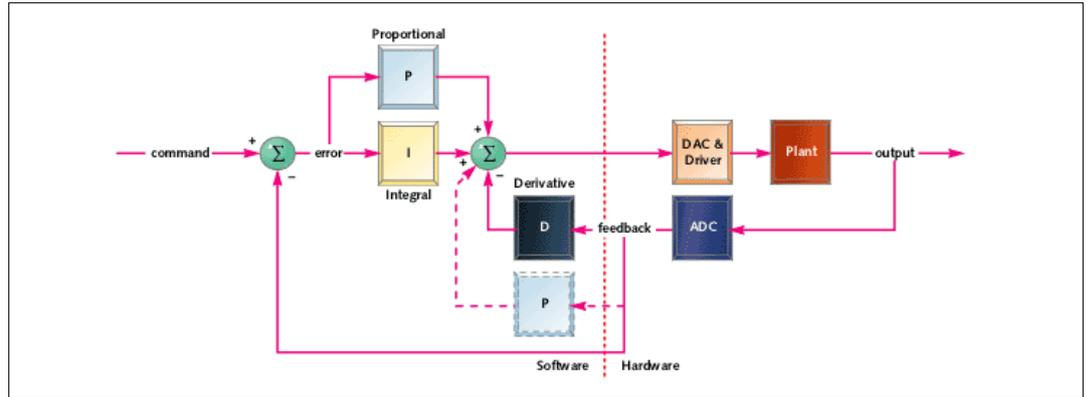

Figure 1
**Figure 1** shows a block diagram of a basic PID controller. In this case the derivative element